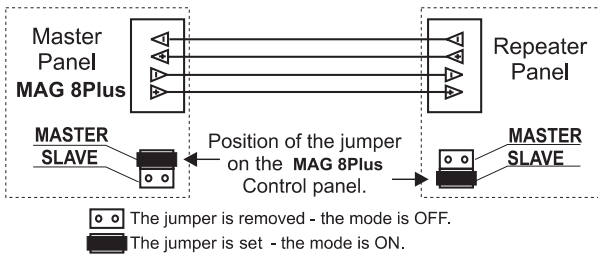

Figure 20.
Figure 20 shows the connection between the Master and Slave MAG 8plus panels.
- Connect the repeater to the first MAG 8plus - see Figures 20, 21 and 22.